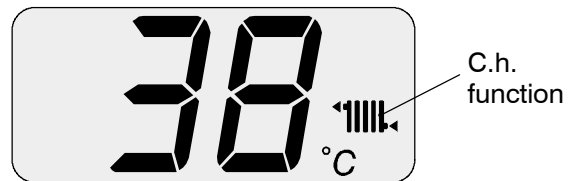

Fig. 8.3
- 6 Set the boiler in c.h. function as illustrated in Fig. 8.3